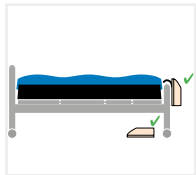

Fig. 2
- Position control unit on foot board of bed using the integral brackets or on a firm surface. (Fig. 2)